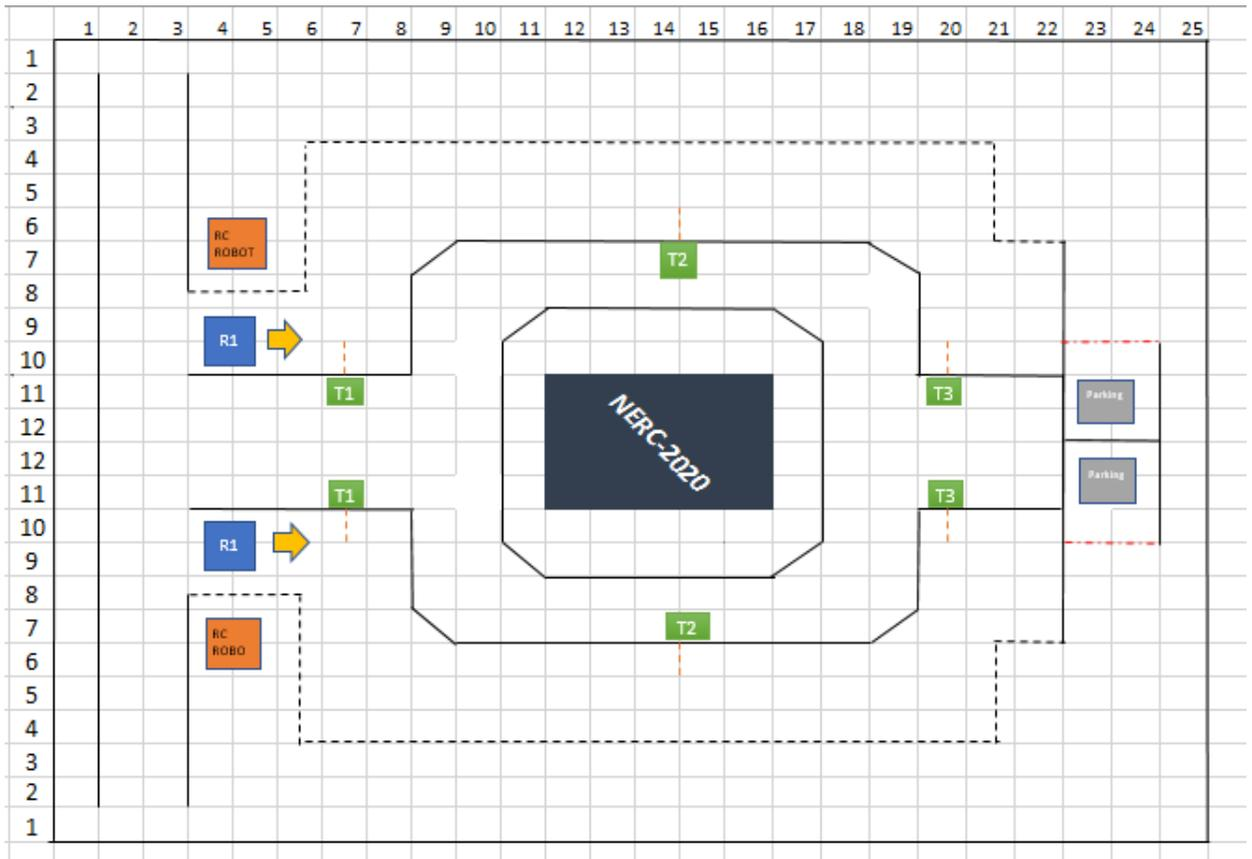

Figure 1 Contest Arena (Top View)
The focus of NERC 2020 theme is to create autonomous robots that can simulate Fruit Harvesting tasks. In this theme there will be two robots. One robot is acting as the harvester robot. Its job is to pluck the fruits (ping pong balls) from the trees. The second robot is called collector bot. The collector robot will carry a container and will collect the fruits from the harvester after it finishes harvesting fruits from one tree. After collecting all the fruits from the harvester, the collector bot will reach to a parking spot. The first team to successfully collect all the fruits and reach the parking spot will be declared the winner. The Contest arena is shown in Figure 1.
2. The solid black lines and the dashed black lines in the Figure 1. Represents the walls on the arena. The walls represented by solid black lines have a height of 4 inch throughout the arena. The walls represented by dashed black lines have a height of 2 inch throughout the arena.
3. The red dashed lines in the Figure 1. Represents the black solid lines on the arena.
5. The harvester robot will start at the intersection of grid line (4,5) and (9,10) facing in the direction of the arrow as marked in Figure 1. The collector robot will start at the intersection of grid line (4,5) and (6,7). The starting position and orientation of the harvester and the collector bot is fixed.
8. The collector robot may follow the harvester. Both the harvester and the collector are separated by the wall of height 2 inch represented by black dashed lines in the Figure 1. Both robots cannot assist each-other in movement through push/pull.
11. After successful collection of all the fruits from the harvester, the collector robot will move towards the Parking spot as marked in the arena shown in Figure 1. The team to successfully collect all the fruits and reach to the parking spot will be declared the winner.